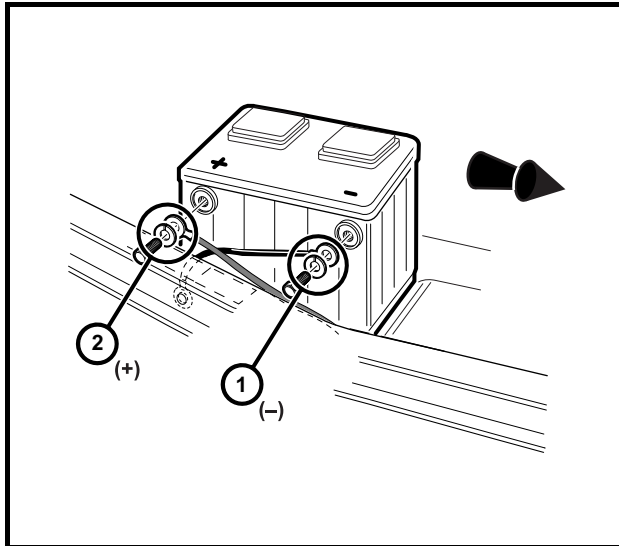

Figure 1-1 Gasoline Vehicle
- Disconnect battery cables, negative (–) cable first (Figure 1-1, Page 1-4).
2. Disconnect the battery cables, negative (–) cable first, as shown (**Figure 1-1, Page 1-4**).